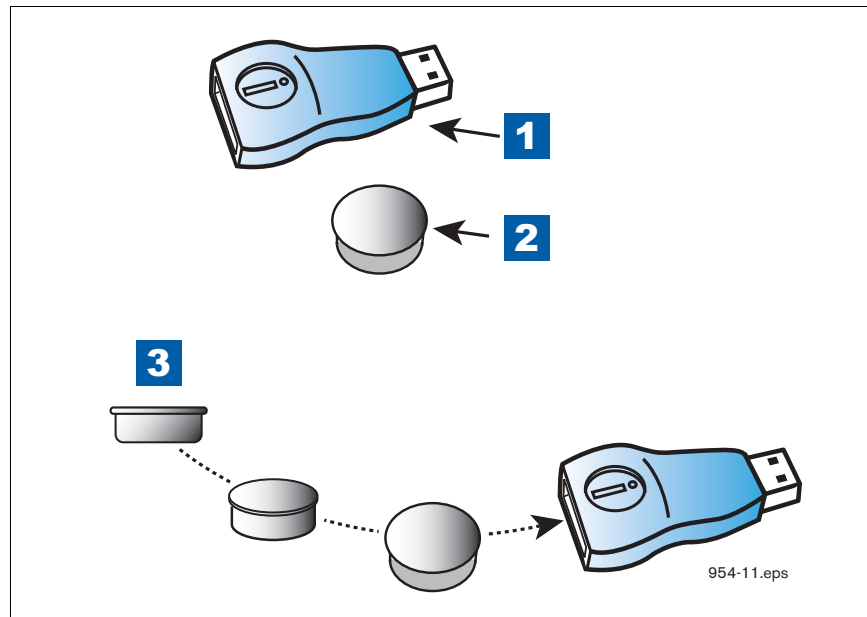

Figure 13. Inserting i-Button into USB Adapter
1. Get the USB Adapter and upgrade i-button from the upgrade kit. Remove the plastic end cap from the USB Adapter and Insert the i-button in the adapter as shown in Figure 13 below.
LEGEND FOR NUMBERED BOXES IN Figure 13